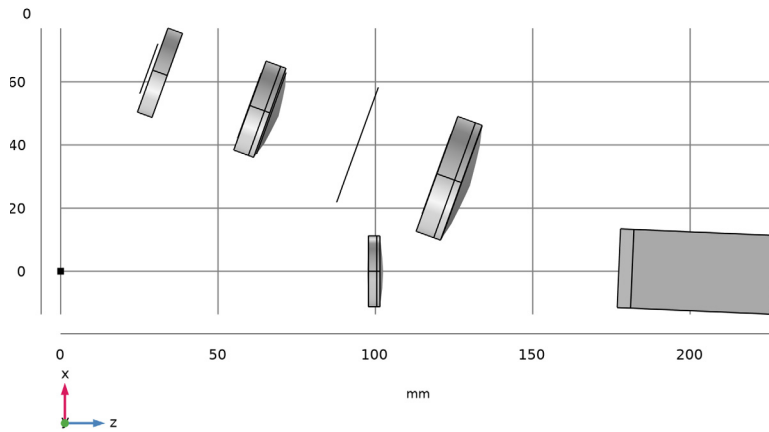

Figure 2: The cross grating échelle spectrograph geometry sequence.
After insertion, the geometry sequence should look like Figure 2. Note that the geometry is fully parameterized. Therefore, a change in the cross grating properties will cause the geometry to be updated.
- 8 Click the  **Zoom Extents** button in the **Graphics** toolbar. Orient the view to place the z-axis (optical axis) horizontal and the y-axis vertical. Compare the resulting geometry to Figure 2.